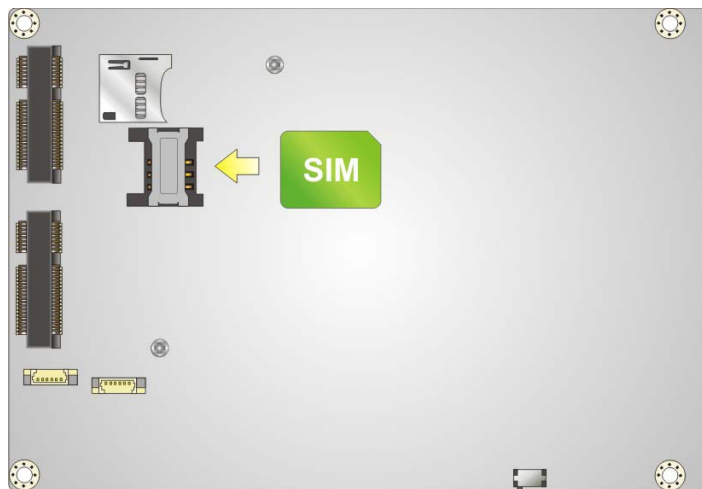

Figure 4-4: SIM Card Installation
Step 2: Align the SIM card. The cut mark on the corner should be facing away from the slot as shown in Figure 4-4.
Step 3: Insert the SIM card until the SIM card is firmly seated in the slot. See Figure 4-4.